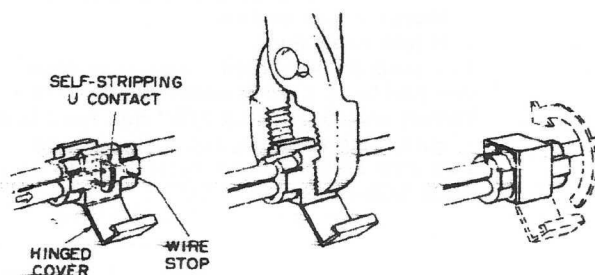

Figure 4
To use the self-stripping wire clips provided, push the connector with the open top over the proper wire (either No. 32 or No. 12). Insert a windshield wiper motor wire in the lower opening of the connector. Squeeze the connector with pliers before closing the cover. Close the cover around the connector. (See Fig. 4.) Repeat the procedure for the other wire.
4. Connect the balance of the wire to the 8-32 screw that mounts the wiper to the windshield, run the wire through the three-wire clips, and connect it to the No. 12 wire connected to the light switch. In order to wire to the light switch wire, you must drop the upper control panel (the one with the fuse block on the outside) and feed the wiper wire into the upper part of the casting. Then drop the dash panel containing the light switch for easier location of the No. 12 wire. Connect the wiper wire to the No. 12 wire with the wire connector as shown in Fig. 4.